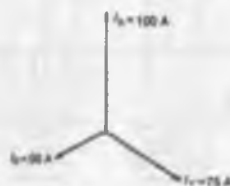

Figure 20.8
- (b) The three line currents are shown in the phasor diagram of Fig. 20.8. Since each load is resistive the currents are in phase with the phase voltages and are hence mutually displaced by 120° . The current in the neutral conductor is given by $I_N = I_R + I_Y + I_B$ phasorially.
Figure 20.8 shows the three line currents added phasorially. oa represents I_R in magnitude and direction. From the nose of oa , ab is drawn representing I_Y in magnitude and direction. From the nose of ab ,